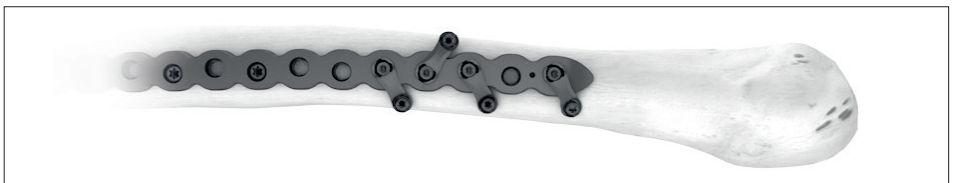

Fig. 38
**To limit the risk of weakening the bone avoid too many screws in a concentrated area (fig. 38, 39). Bi-cortical purchase offers better stability and limits the risk of weakening the bone.**